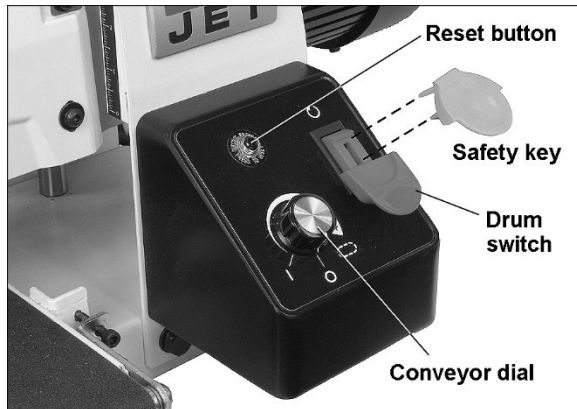

Figure 8-1: control panel
3. Start sanding drum (with control panel switch, Figure 8-1).
4. Start conveyor and select feed rate (with control panel dial, Figure 8-1).
To prevent unauthorized use of sander, turn off main switch and pull out safety key (Figure 8-1). Store key in a safe place. Key must be reinserted to start sander.
If the sander becomes overloaded, the built-in breaker will trip to help protect the motor. Allow the machine to cool down, then push the reset button (Figure 8-1) to restart.